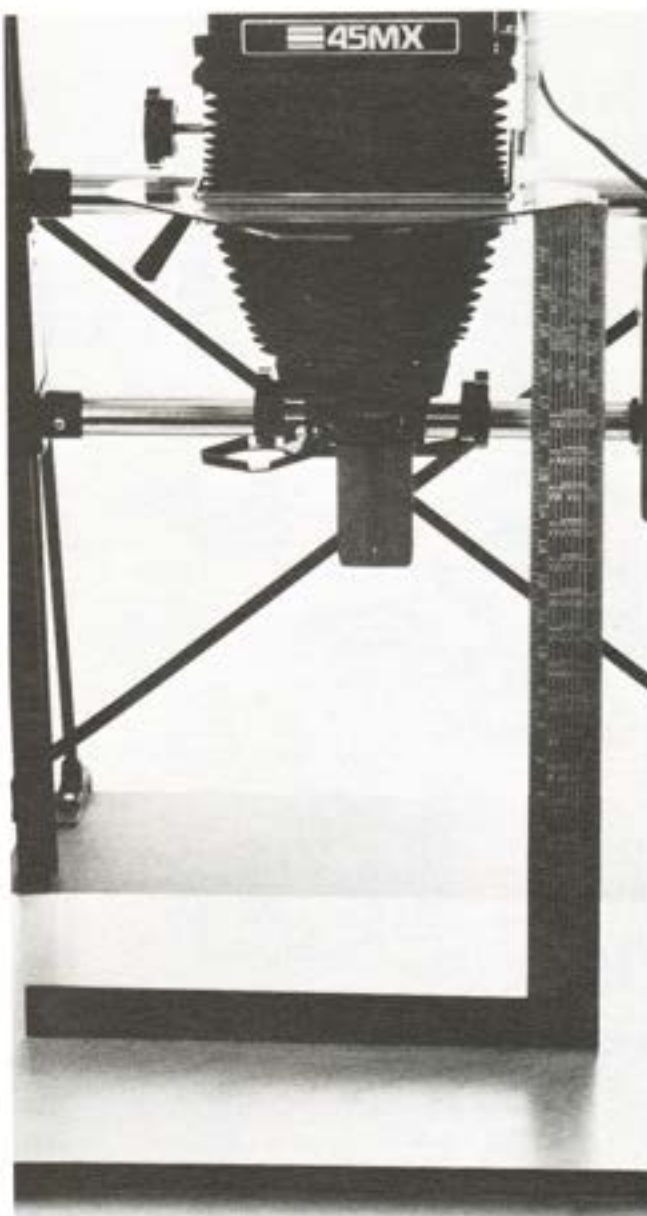

Figure 8
4. Use a straightedge or carpenter's square at least 24 inches long to measure the distance of the left and right sides of the negative stage from the baseboard (Figure 8).